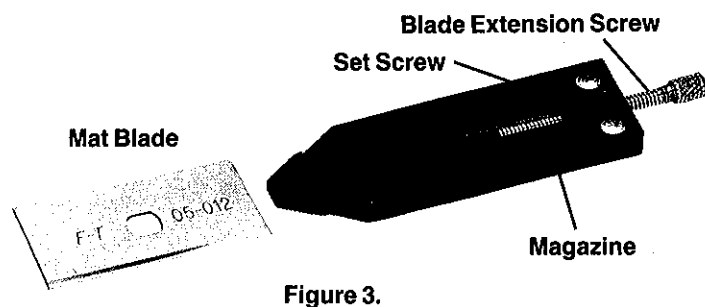
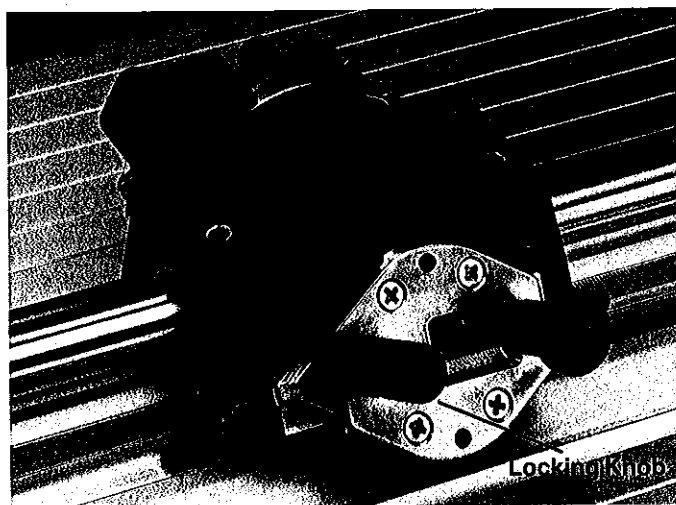

Figure 3.
Figure 4.
1. Insert a **Fletcher Mat Blade** into each of the two blade **Magazines**. A set screw is provided on each side of the magazine (see figure 3). These screws are adjusted with the  $\frac{1}{16}$ " Allen wrench to permit the blade to be inserted and held lightly without falling out. Turning the screws clockwise frees the blade, turning them counter clockwise grips it more firmly. These screws need to be adjusted only once. Slide one **Magazine** into the **Head** on the left, the bevel cutting side, and the other in its slot on the right side of the **Head** for vertical cuts. Make sure the **Magazines** are fully inserted to a stop and the blades are pushed all the way into the **Magazine** before tightening the **Magazine Locking Knob**. (See Fig. 4).